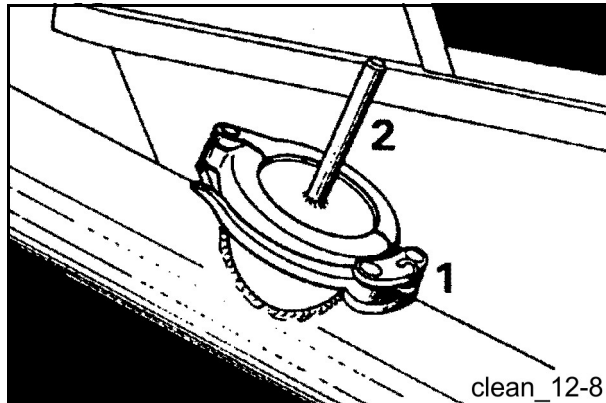

Fig. 116 Cleaning cover
A pumping pipe with a cleaning cover (2) **(Fig. 116)** is available as special equipment.